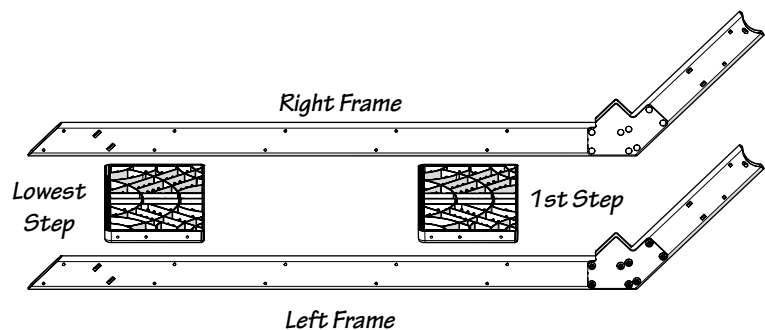

Fig. 4-3
- Position a second dock step at the lower end, as illustrated in Fig. 4-3.